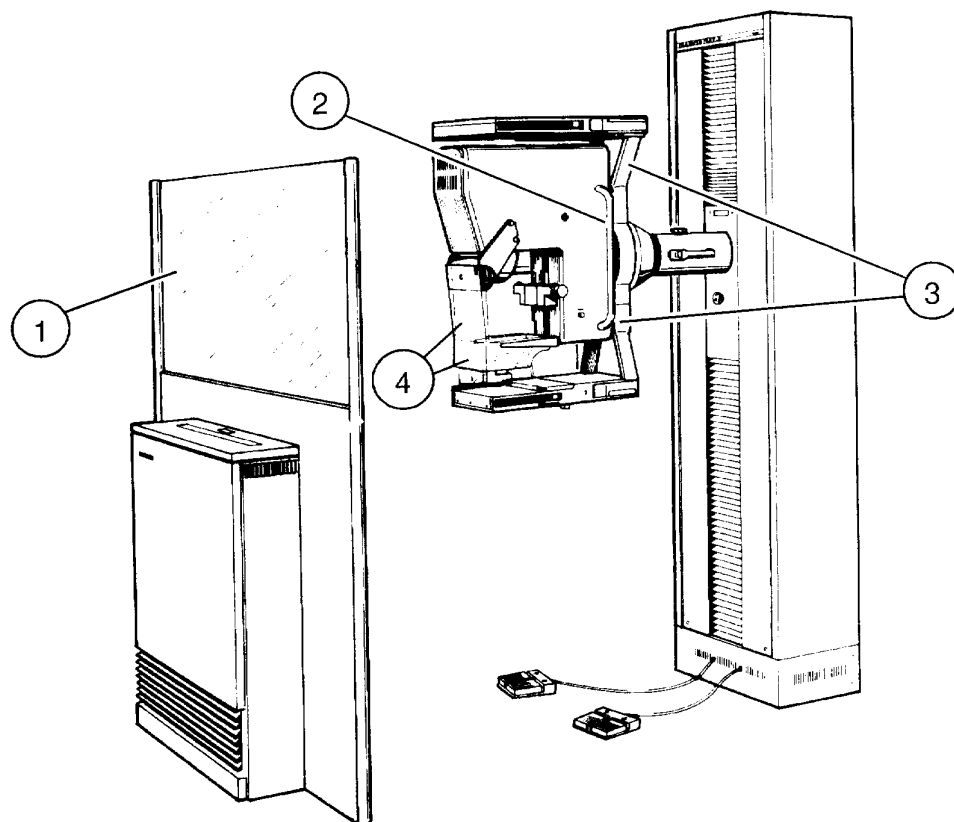

Fig. 1
- Check the radiation protection shield for possible damage (1/Fig.1).
- Check the swivel arm / PPS tube - attachment by pulling on both support rails (minimum play of approximately $\pm 2^\circ$ is correct). (2/Fig.1).
- Check the mounting of the basic table as well as the locking mechanism for the exposure system (3/Fig. 1).
- Check the head guard and compression fixtures for correct seating and for damage (4/Fig.1).